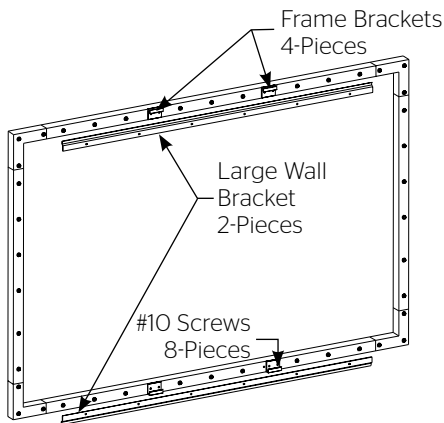

Figure 5
1. Use the supplied #10 screws to attach four frame brackets to the back of the frame as shown in Figure 5.